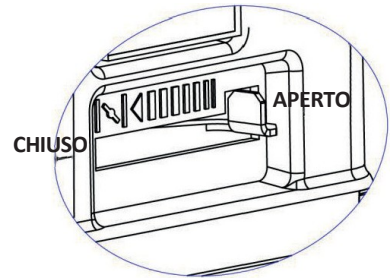

Fig. 7
**Leva dello starter (Fig. 7)**